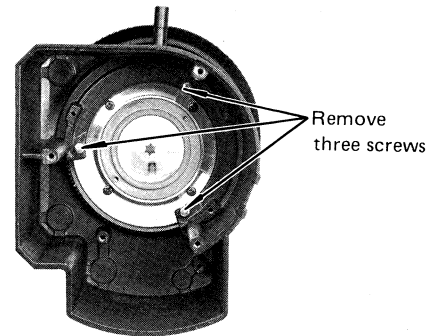

Fig. 3-5-7
- Remove three screws which hold iris cover and remove iris cover. (Fig. 3-5-7)